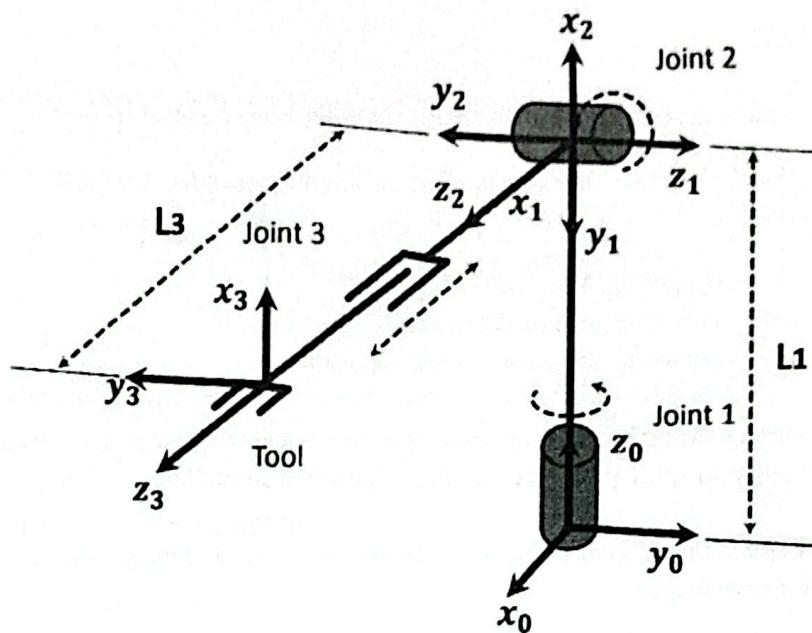

Fig. Q.3
- a. Consider the RRP robot shown in the Fig. Q.3. The home position for the robot has the base of the robot on the ground with $L_1 = 3m$.